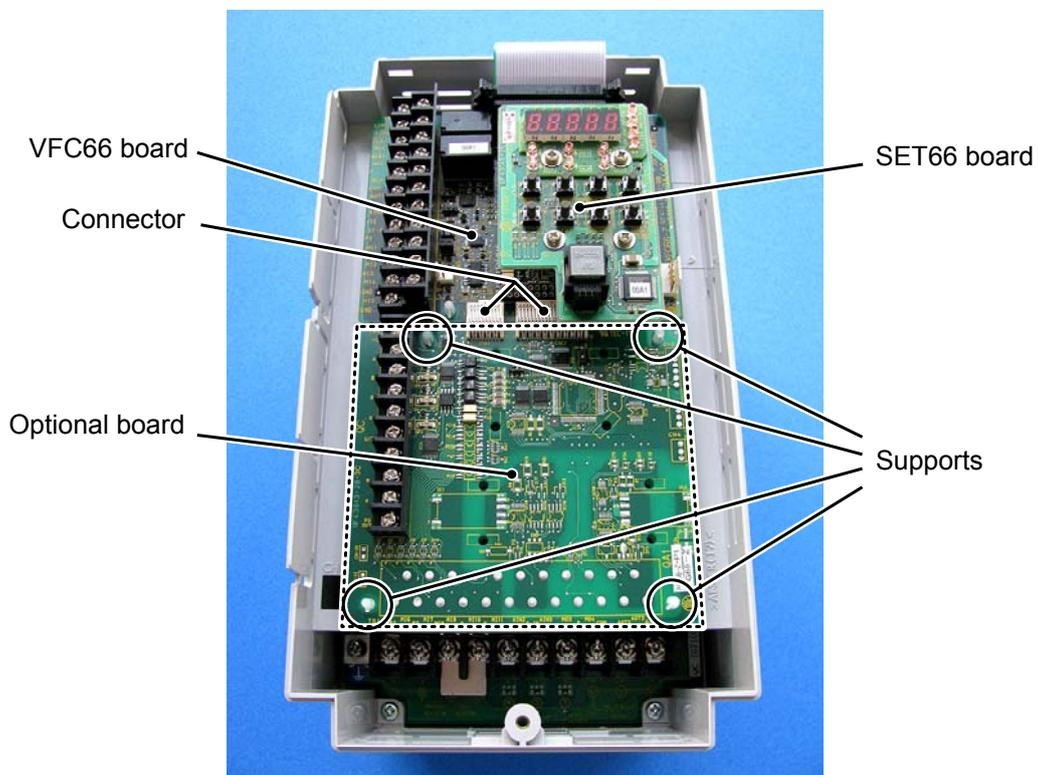

Figure 1. When the front cover is open
4. In four locations shown by circles on Figure 1, you can find supports which fix the optional board to the housing of VF66B (DC motor drive). Remove the optional board by pushing the pawl part shown in Figure 4 into the support.
6. Align four holes of the removed optional board with the location of supports shown by circles in Figure 1. Push the board until the pawl part of support gets hooked to the upper part of the board as shown in Figure 4.